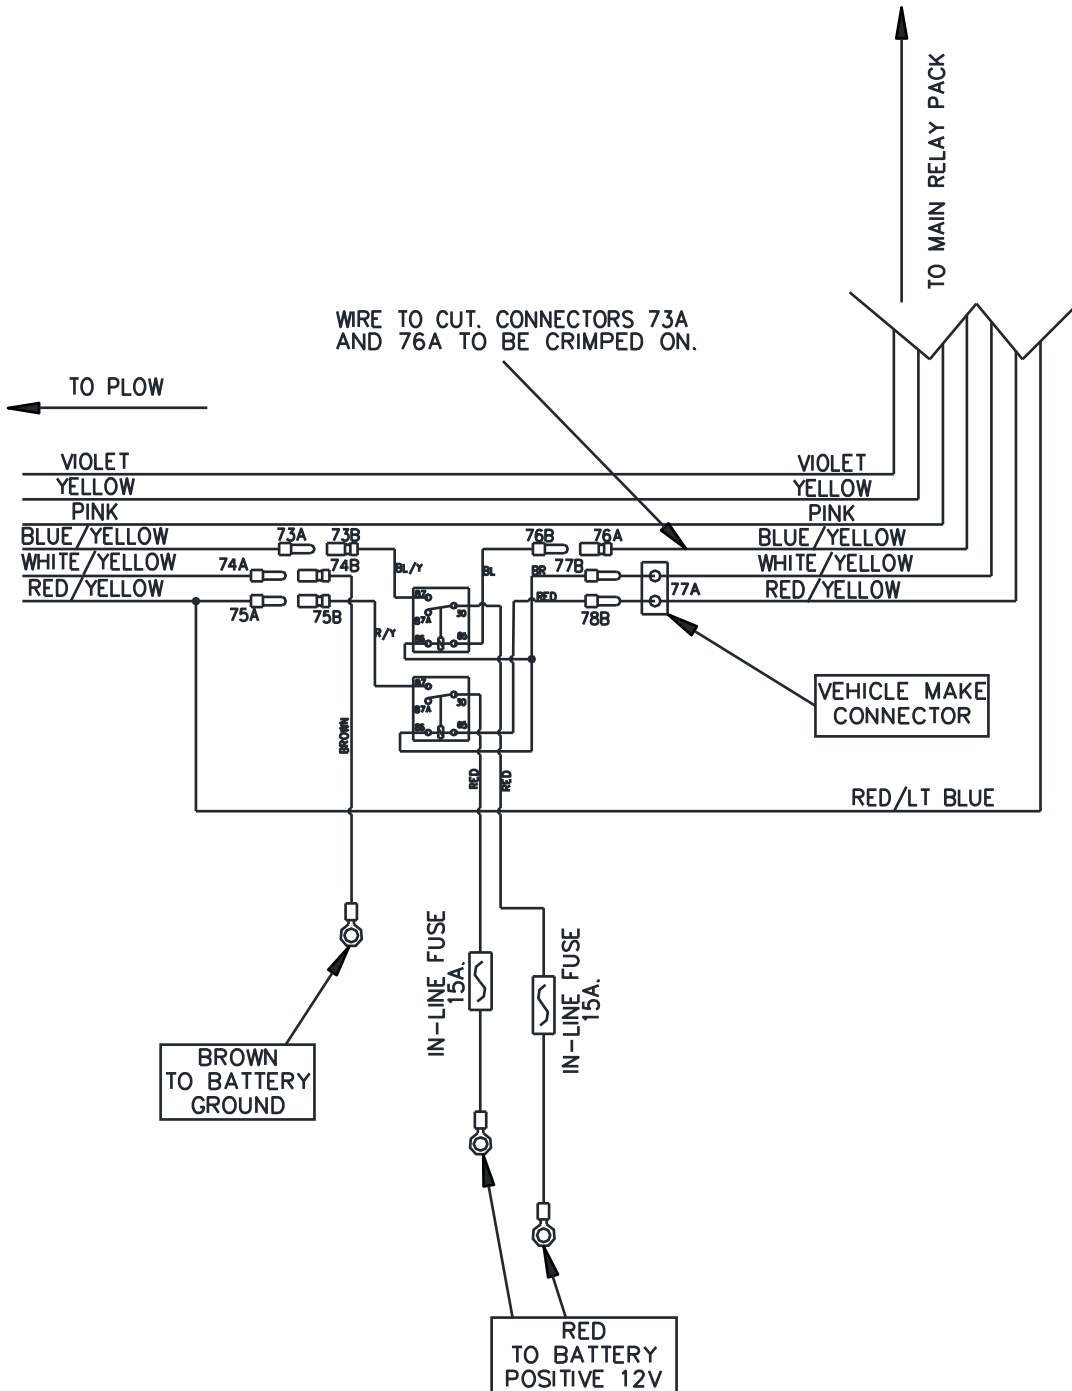

Figure 2. Typical MSC11201 Headlight Adapter Connection
3. Refer to Figure 2 on page 3 for clarification of installation instructions.
1. For 9004 headlight bulb equipped trucks, refer to Figure 2 on page 4 and proceed as follows.